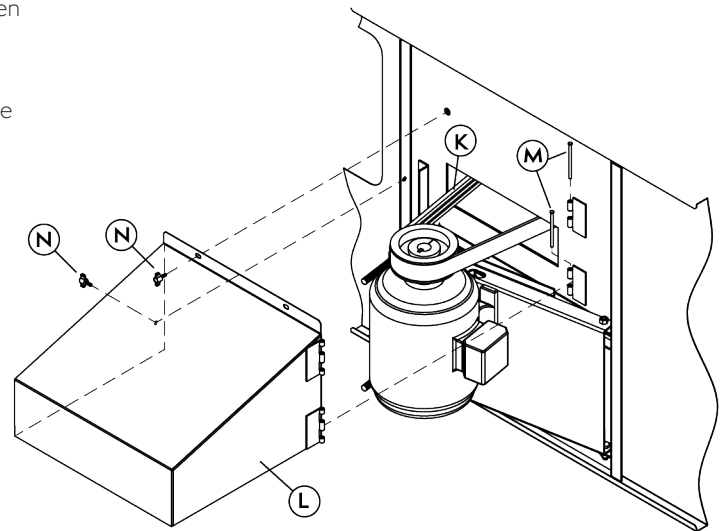

Figure 16 - Motor Guard and Powerband Belt Installation
10. To install Motor Guard **L**, match up hinges and install hinge pins **M** (See **Figure 16**).
11. Close Motor Guard and install two (2) wing bolts **N**.